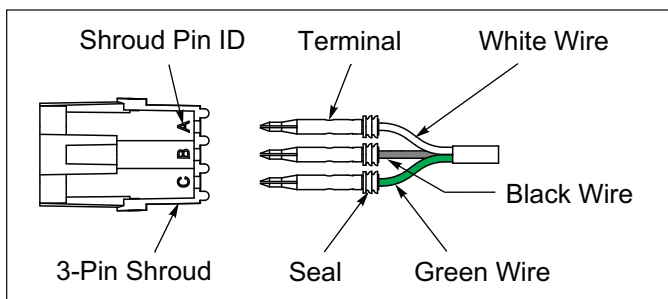
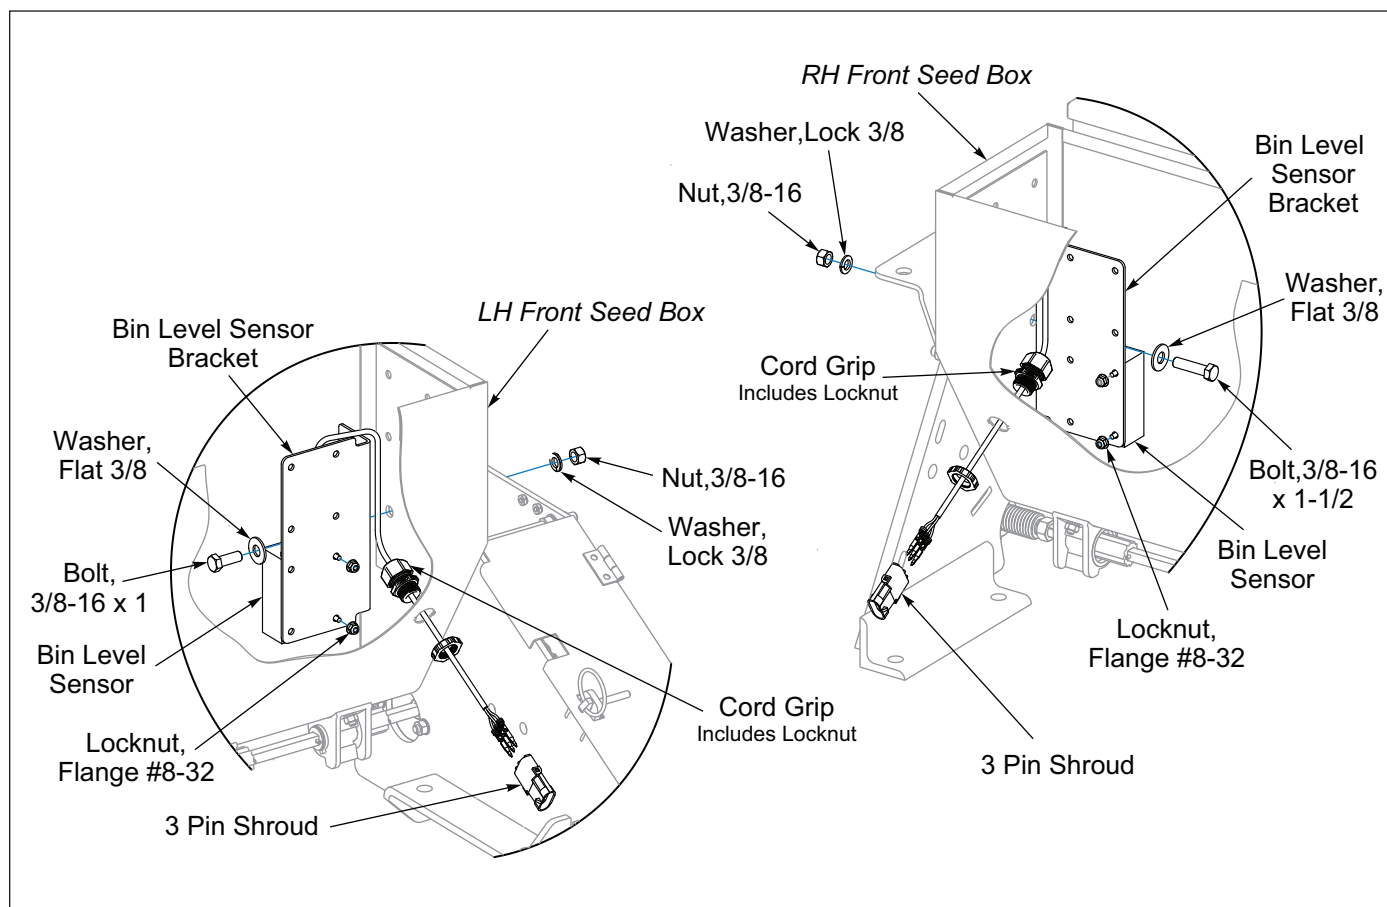

Figure 2-23: Bin Level Sensor Wire Detail
Figure 2-29: Brillion Elite Mini Monitor - Bin Level Sensor Bracket
6. On the inside at either end of the Seed Box, install a Bin Level Sensor Bracket with the Seed Box Mounting 3/8-16 Hardware. **See Figure 2-29.** Determine the desired level for the alarm to be indicated on the Brillion Elite Mini Monitor and assemble the Bin Level Sensors to Bin Level Sensor Brackets with sensor provided hardware and #8-32 Flange Locknuts. If more adjustment is needed, the Bin Level Sensor Brackets can also be raised or lowered to the desired seed level. Install Cord Grips from the inside of the Seed Box out and secure with supplied Locknut on the outside of the Seed Box. To get the Sensor Connector outside the Seed Box, feed the terminals through the Cord Grip. Install the terminals into the 3-Pin Shroud labeled "A", "B" and "C" as follows "A" White, "B" Black, "C" Green. **See Figure 2-23.** Inside the Seed Box, provide enough cord slack to the Bin Level Sensor Cord to allow for future adjustments of the Sensor. Secure the Bin Level Cord by tightening the Cord Grip Compression Nut. Connect both Bin Level Sensors to the Seeder Harness.